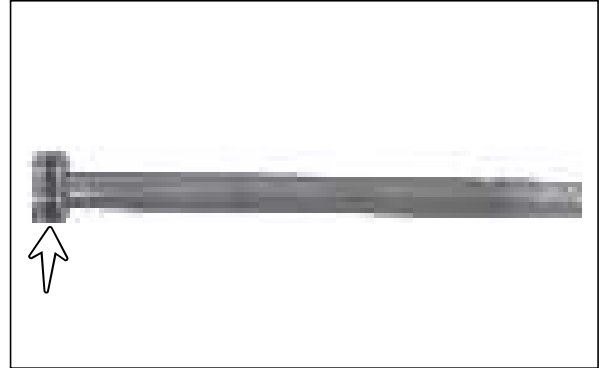

Fig. 6.62
- Inspect the piston front fork and ring damper piston for wear and any damage. (Fig.6.62) Replace with new ones if any damage is noticed.